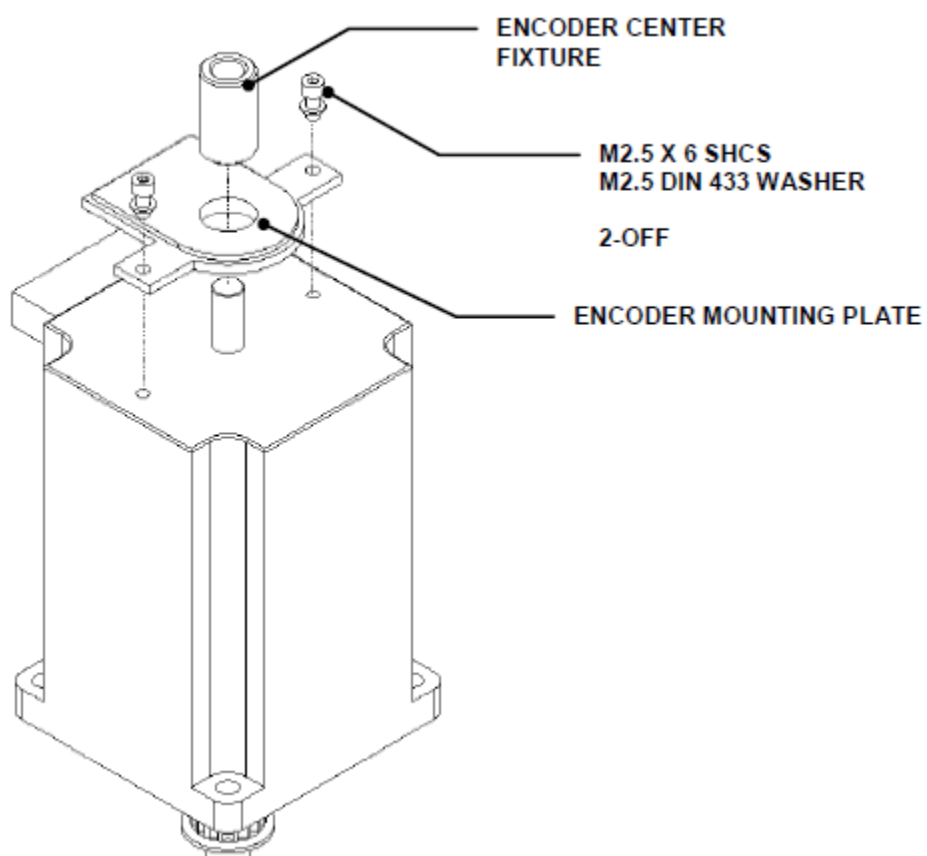

Figure X-8: Positioning the Encoder Plate and Fixture
2. Attach the Encoder Mounting Plate using the Encoder Center Fixture 6.35mm (P24FIX007) to ensure that Mounting Plate of Encoder is located concentrically with Motor Shaft as shown in Figure X-8. Fasten the screws and affix with Loctite 425. Remove the fixture when the pulley is affixed.